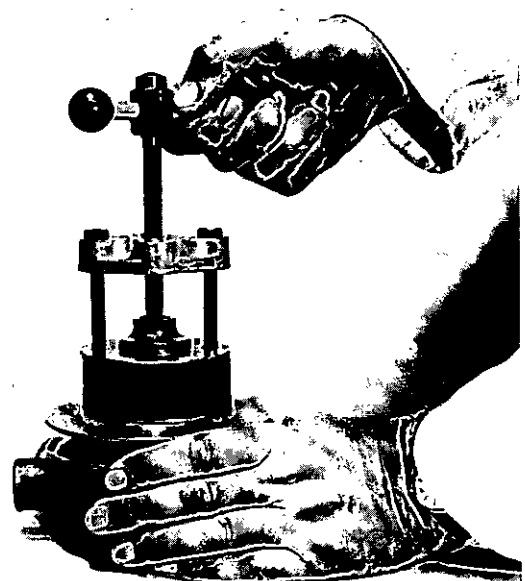

Fig. K.4
Remove water pump pulley (3) using tool 21825006 (See Fig. K.4). The tapped holes in the pulley can be utilised for this purpose.